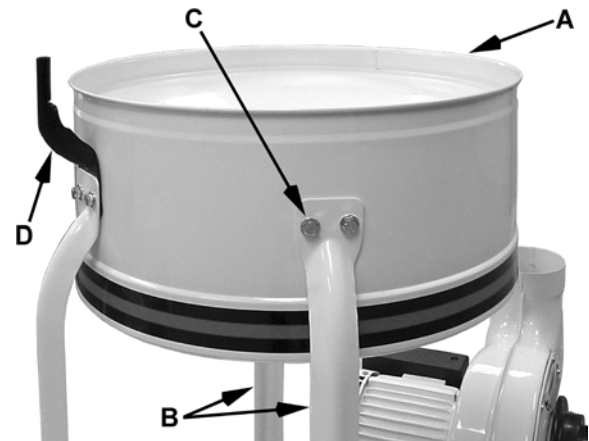
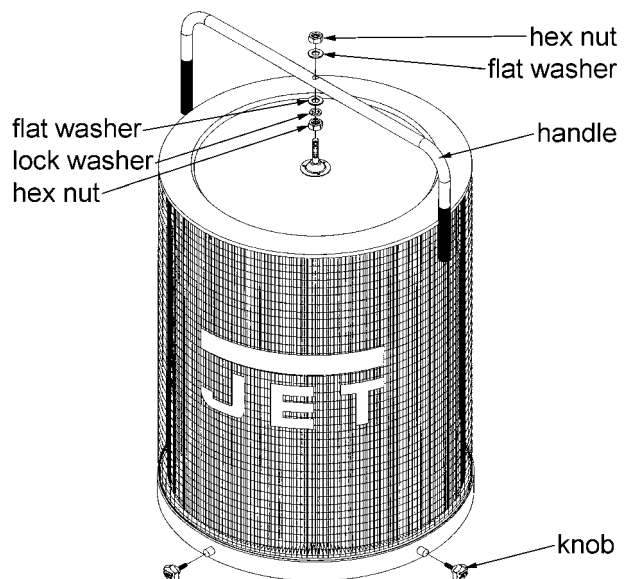

Figure 5
Figure 11
6. Install the *housing* (A, Fig. 5) to two *support brackets* using four M8 x 16 hex cap bolts, eight M8 flat washers, and four M8 hex nuts (B, Fig.5). Be sure hose opening faces fan housing. *Be sure hose opening faces fan housing.*
7. Before attaching third support bracket place the *hanger bracket* (D, Fig.5) between the support bracket and the housing.
4. Mount the handle onto the canister filter with two M10 hex nuts, two M10 flat washers, and a M10 lock washer (Figure 11).
5. Mount the canister filter on top of the collector housing (A, Fig. 5) and tighten the knobs on the canister filter (Figure 11).